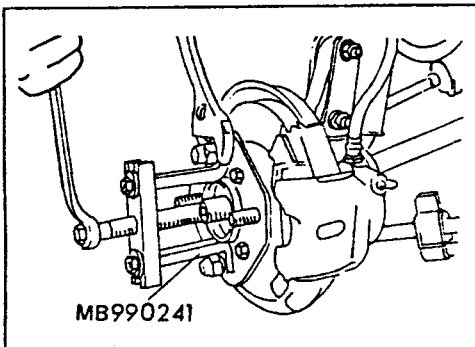

Fig. 9.3. — Removal of a wheel hub with the special puller.
- Attach the puller shown in Fig. 9.3. to two studs of the wheel